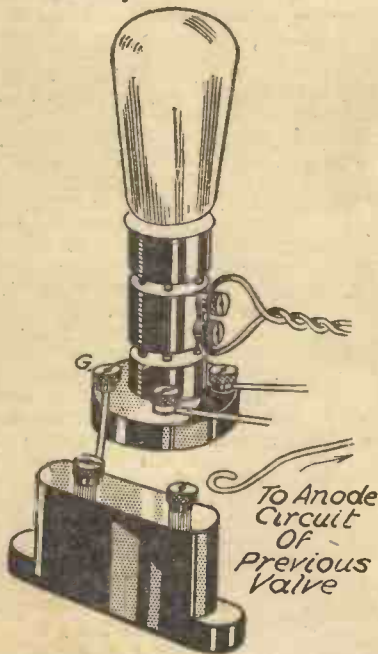

Fig. 15.—If it is suspected that the grid condenser is leaking, it should be disconnected whilst taking anode measurements.
(2) *Too low a current indicated:* Shows that the valve is wrong, the grid bias voltage too high, the grid is disconnected, the valve is oscillating, some component in the anode circuit is of too high a resistance, or that there is a resistance in the L.T. circuit. The tests mentioned in respect to (1) should be applied, especially that of measuring the voltage across the filament terminals of the valve holder. If it is suspected that an anode circuit component has developed a high resistance, the component may be replaced by a similar one, if available, or by a variable resistance. By adjusting the resistance until the anode current is the same as before a good indication of the resistance of the suspected component can be gathered—the effective value of the variable resistance can be estimated by the position of the slider. To test for oscillation in any type of valve the anode terminal should be touched with a moistened finger; a change in anode current will take place if the valve is oscillating. Do not forget that, in the case of an S.G. or pentode valve, the screening grid voltage will have a pronounced effect on anode current.
(3) *Too high a value of anode current:* This might point to too little G.B. voltage, grid disconnected, valve oscillating, leaky grid or coupling condenser, short circuit through a component in anode circuit. Apply tests as in (2) and if a leaky grid condenser is suspected the wire from it to the anode circuit of the previous valve should be disconnected as shown in Fig. 15.